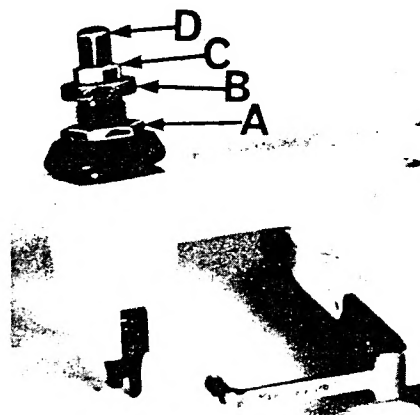

Fig. 2
Sufficient presser foot pressure to feed work uniformly should be maintained. Should it be necessary to increase or decrease amount of pressure on presser foot, loosen lock nut (A, Fig. 2) and turn adjusting screw (B). Adjusting screw has a right hand thread so tightening increases pressure, loosening decreases pressure. When pressure adjusting screw (B) has been properly set, tighten lock nut (A). With presser foot resting on throat plate, position locking nut (C) so that its under surface is approximately $1/32$ inch to $1/16$ inch from the top surface of adjusting screw (B). Set cap (D) against locking nut (C).